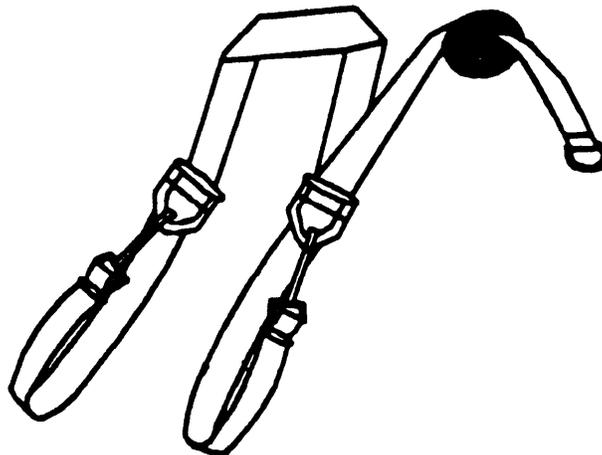

Fig. 2 - Top Laddermate - LM200
- 3.01 There are *two* accessories available for use with the LADDERMATE. One is the TOP-LADDERMATE (Fig. 2), which is used to secure the top of a ladder.